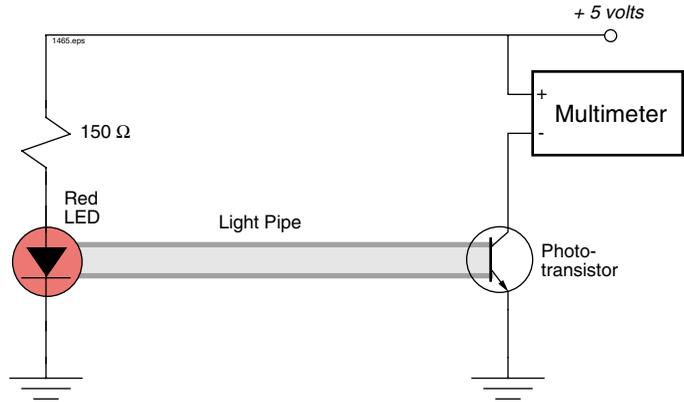

Figure 2.2 Test circuits for evaluating light guide.
6. On your solderless breadboard connect the electrical circuits as shown in **Figure 2.2**. Use the device diagrams found in the **APPENDIX** to identify anode and cathode on the LED, and collector and emitter on the